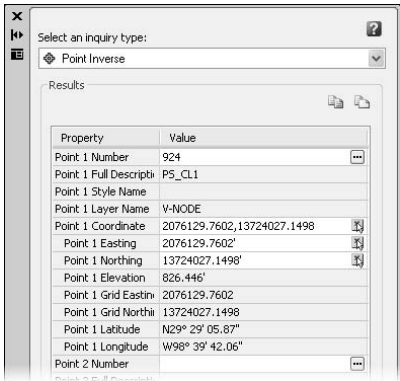

Figure 2.3
- 5. Click the ellipsis button near the top right, and then select the text or point symbol near point number 924 to make your display appear as shown in Figure 2.3.